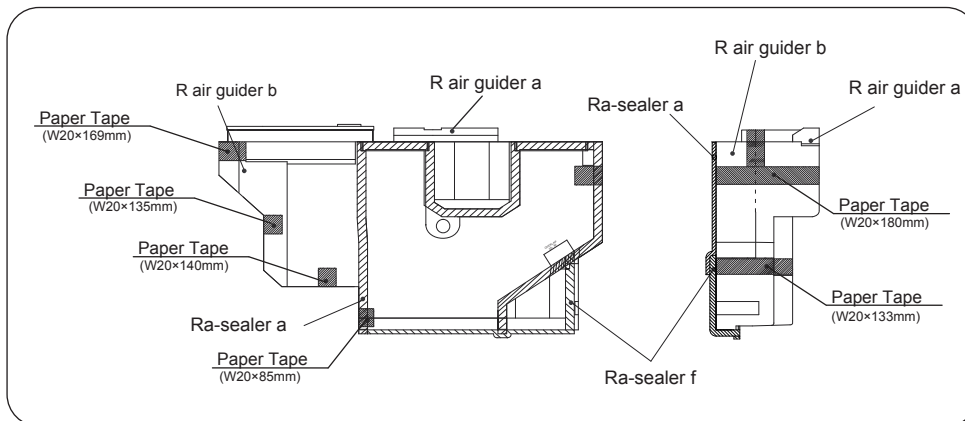

Figure A-8
3) Fix 2) ass'y with paper tape. (Figure A-8)